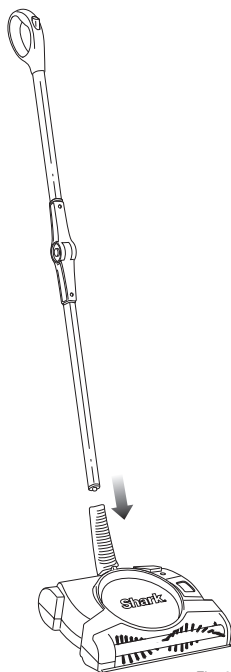

Fig. 3
- 3 Using your foot, press the power button and push the unit forward over the surface you wish to clean. (Fig. 3)
- 3** Insert the Shark® Backsaver™ folding handle you just assembled into the top of the lower handle. You should hear the locking tab click into place. (Fig. 3)